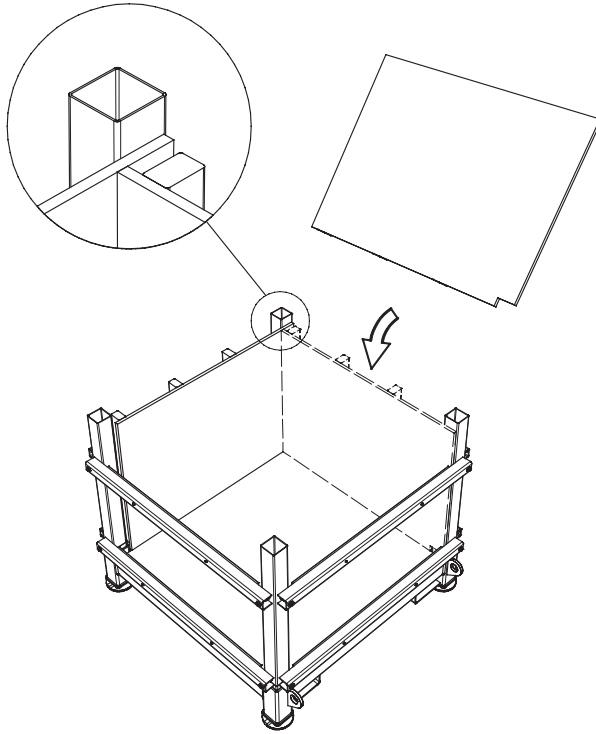

Figure 20. *Placement of the side board units.*
- 4.3. Place the four Concrete Side Board assembly units equally one after another onto the Bottom Board located in the Base, with the notch facing down and the Timber Ribs leaning towards the Formwork Supports, see Figure 20. Make sure to place all the units overlapping so that all the side-board units get the same support when leaning against the Formwork Supports.